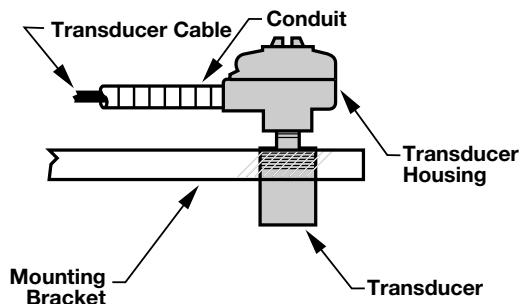

Figure 9
4. Providing conduit from the transducer to the transmitter enclosure, carefully pull the transducer cable through the conduit toward the transmitter enclosure. Refer to Figure 9. This cable will be connected in the "Transducer Wiring With Transducer Housing" section on page 10.